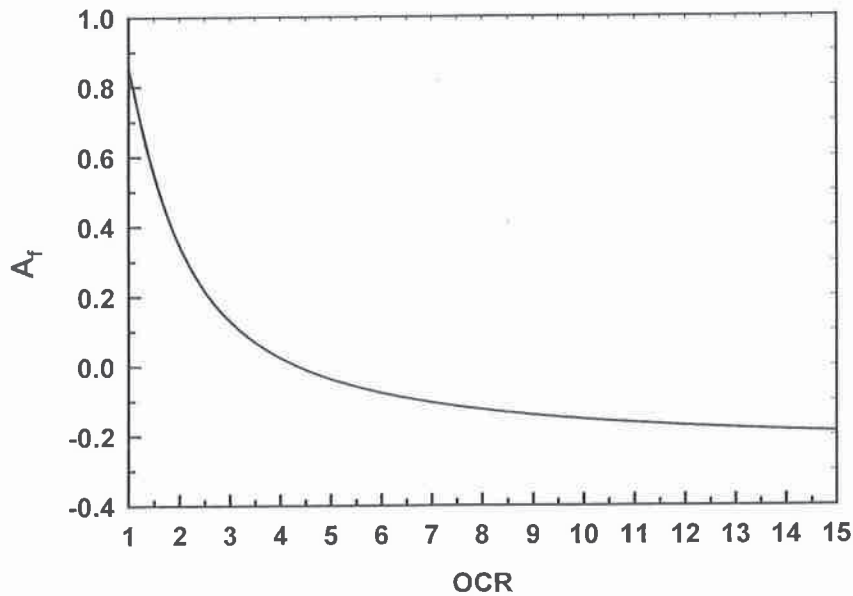

Figure 3. OCR versus A_r relationship
- i) Determine the effective shear strength parameters for the tested soil (i.e., c' and ϕ'). Also, calculate the Skempton's A_f value for this clay. Is the clay normally consolidated or over consolidated? Give reasons. Note: **Figure 3** will be useful for answering this question